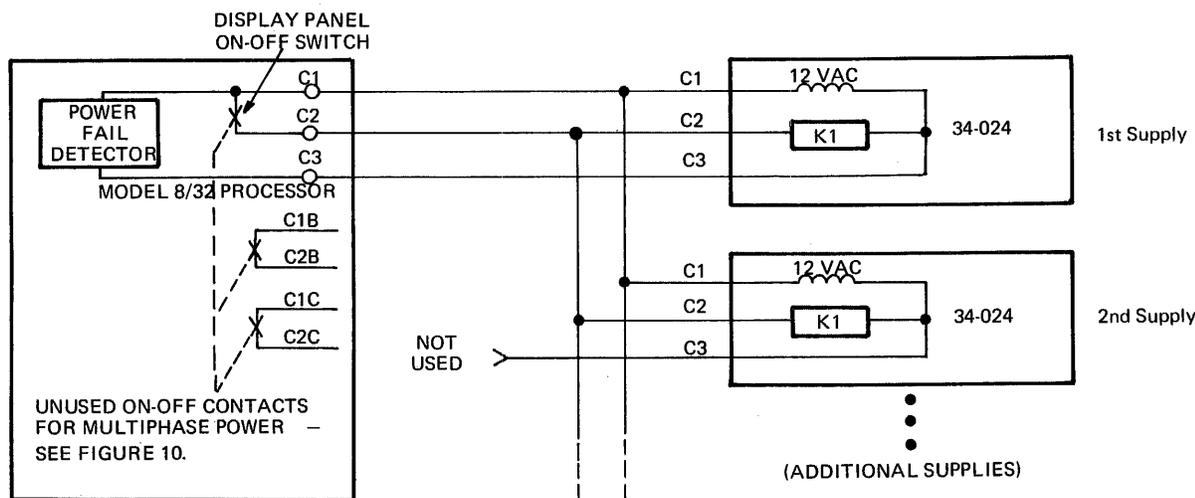
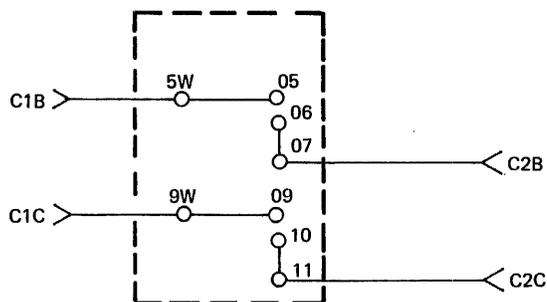

Figure 9. Power Control Circuit Diagram
Figure 10. Wiring of the Second Deck of the Rotary Switch for Control of Different AC Phases
4.3.3 Power Control. The power control circuit diagram for the Model 8/32 is shown in Figure 9. Leads C1 and C2 are the remote ON/OFF switch leads. All power supplies connected in this manner must be powered from the same AC phase. If different phases are used, it is not possible to turn OFF the supplies by the Display Panel ON/OFF/LOCK switch. In this event, additional control lines must be custom wired to the Display Panel ON/OFF/LOCK switch as shown in Figure 10 and power supply control lines must be grouped according to phase. C1 and C2 control one phase, C1B and C2B control a second phase, and C1C and C2C a third phase.